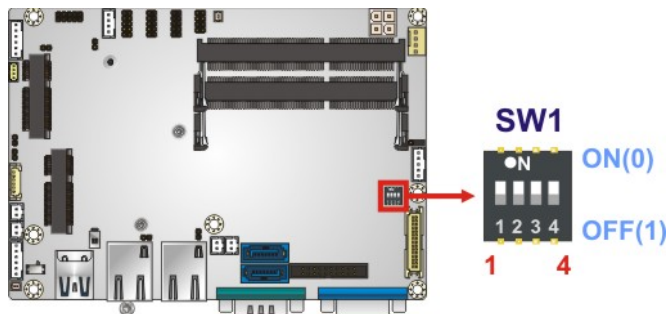

Figure 4-15: LVDS Panel Type Selection Switch Location
- Jumper Location:** See Figure 4-15